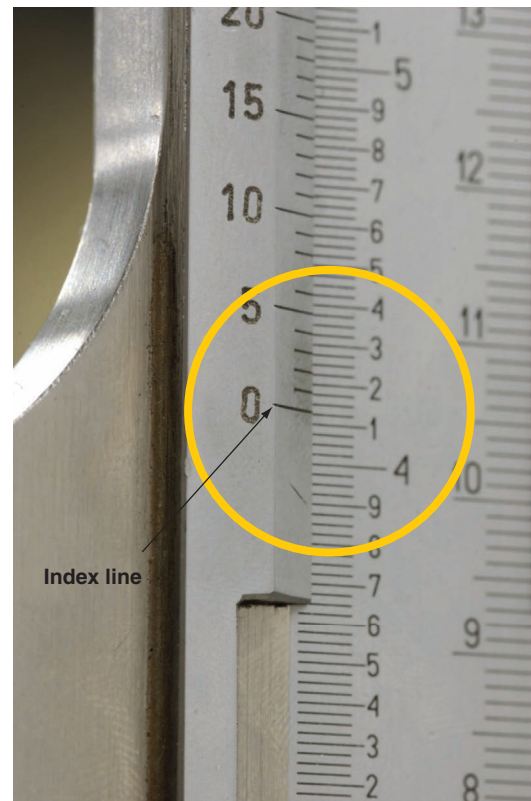

Figure 6-56 Always estimate first by reading the index line's position on the rule.
4. Most importantly, *the index line.* The index points to the exact position of the tool on the rule. To avoid errors, always estimate the position using the index line on the rule, before reading a vernier (Fig. 6-56).